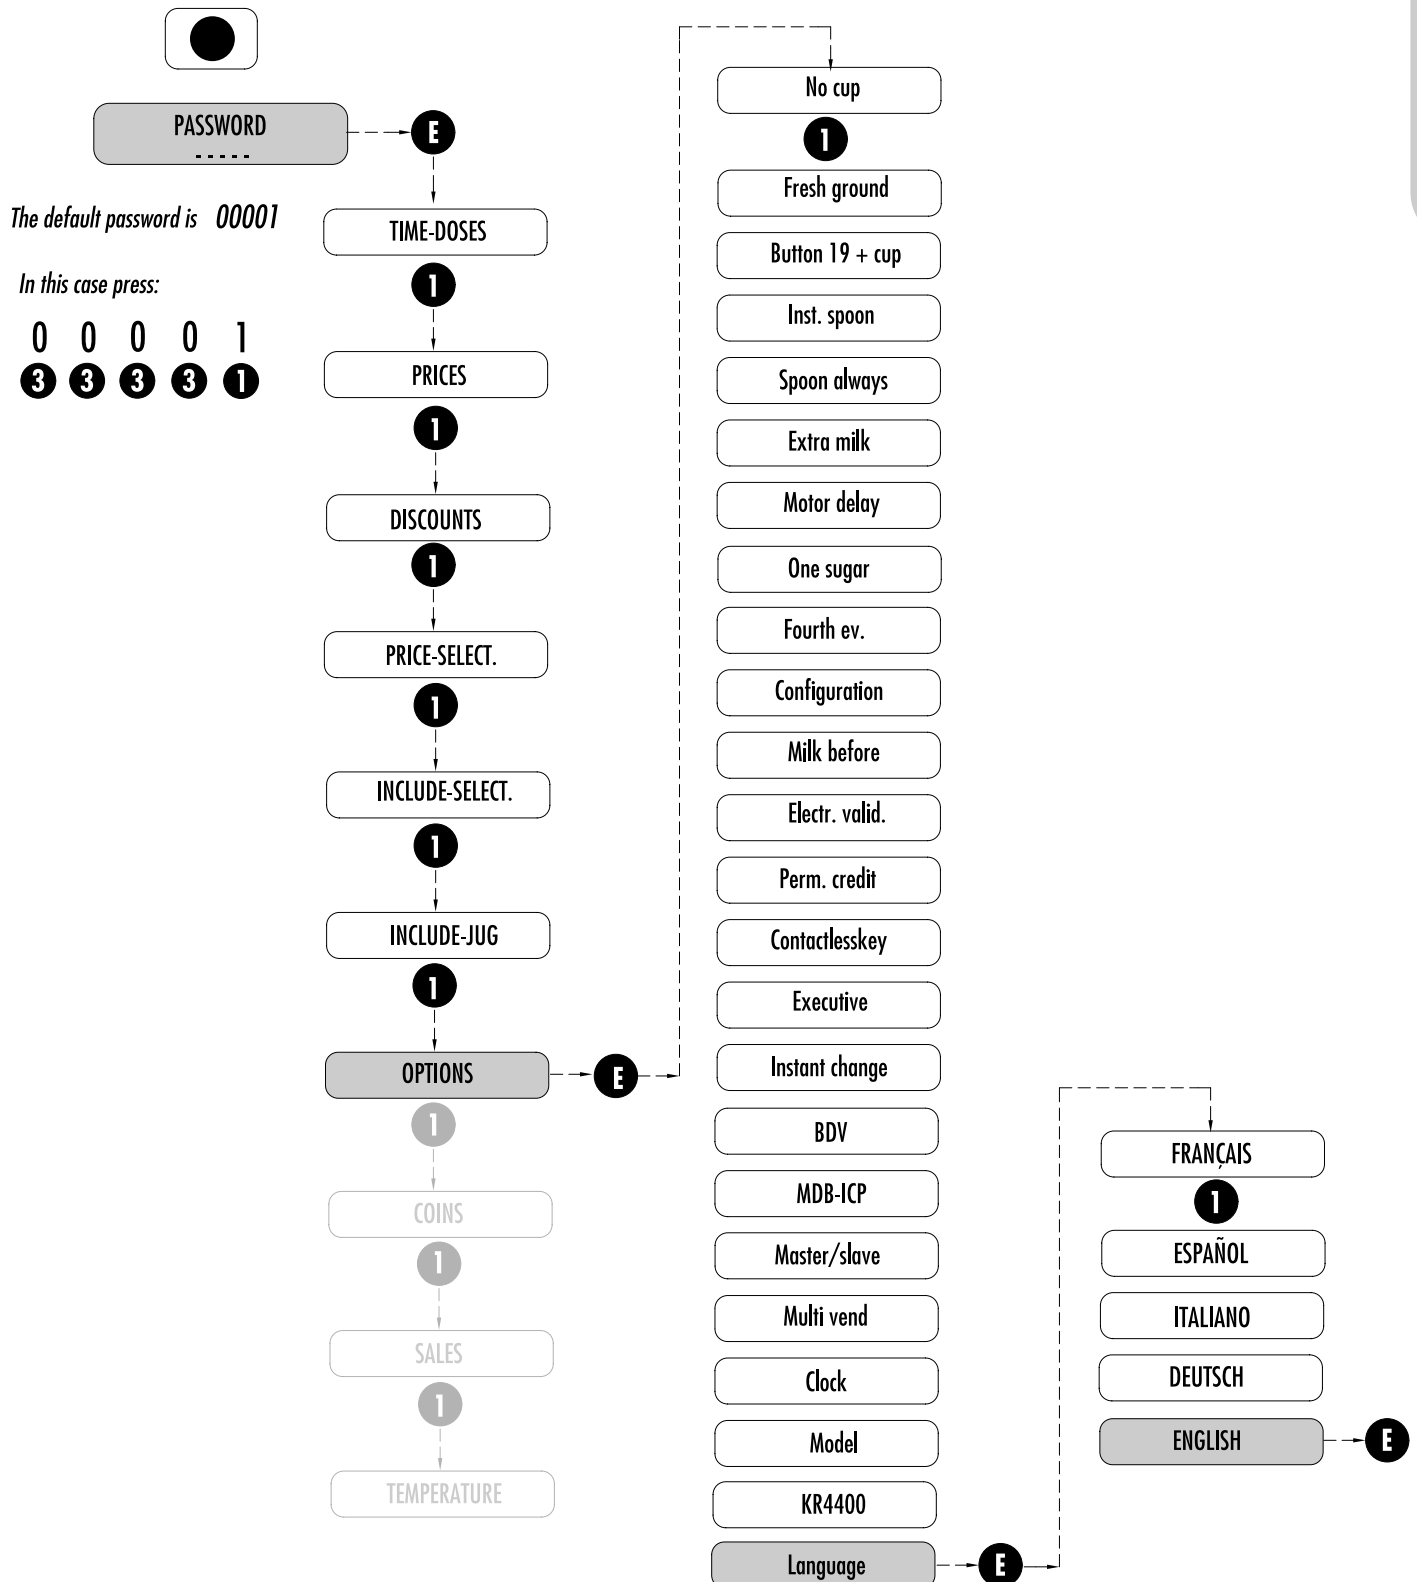

Fig. 7.2
– The display messages are in five different languages that can be selected at choice by the operator during the installation phase (Fig.7.2).